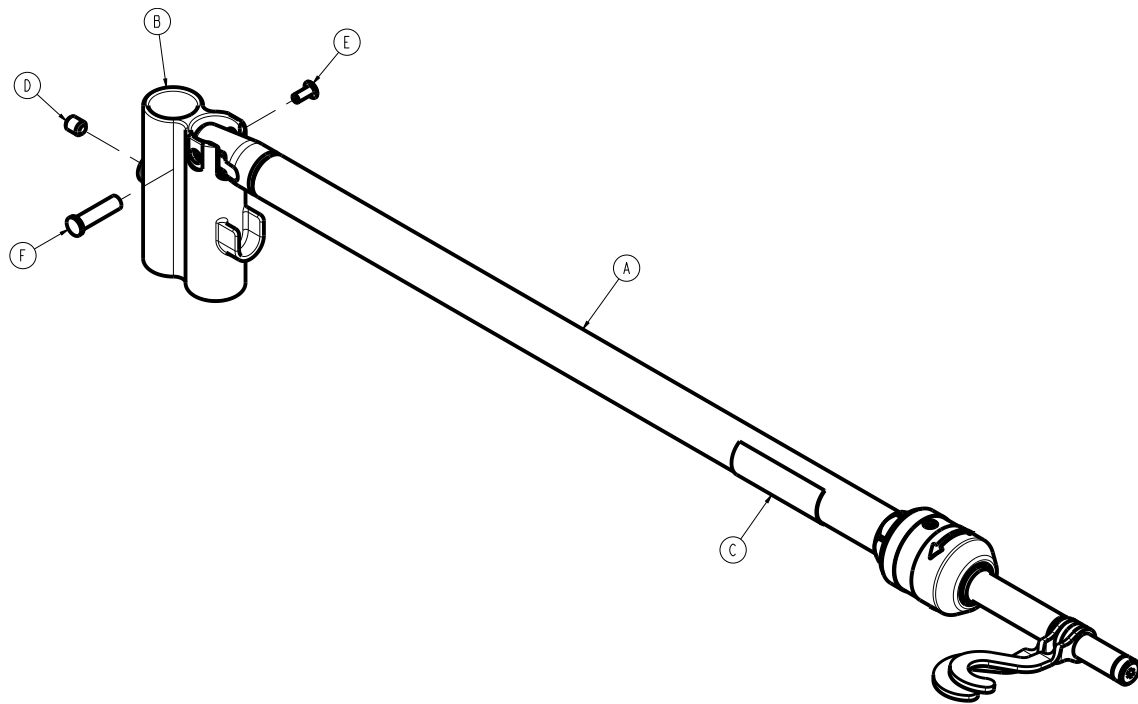

Figure 56 – Attaching the dual IV pole, top
9. Using a 5/32" hex wrench, tighten the set screw (D) to secure the top IV receptacle (B) to the bed IV post (Figure 56).